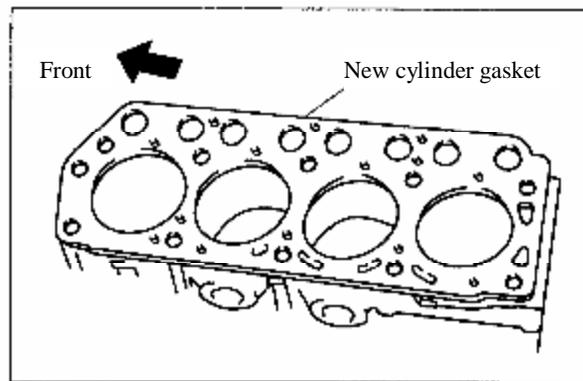

Figure 3-4 Installation of Cylinder Gasket
**3.1.4** When to mount a cylinder gasket, apply high temperature resistant sealant on surfaces of its both sides so as to ensure sealing performance. The gasket must be replaced each time cylinder head has been dismantled (see figure 3-4).